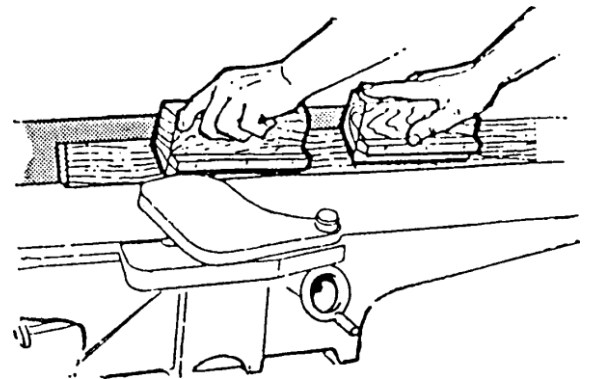

Fig. 39
5. When beveling material less than 3 inches wide, use beveled push blocks and apply pressure toward the fence. Keep fingers near top of push block (Fig. 39).